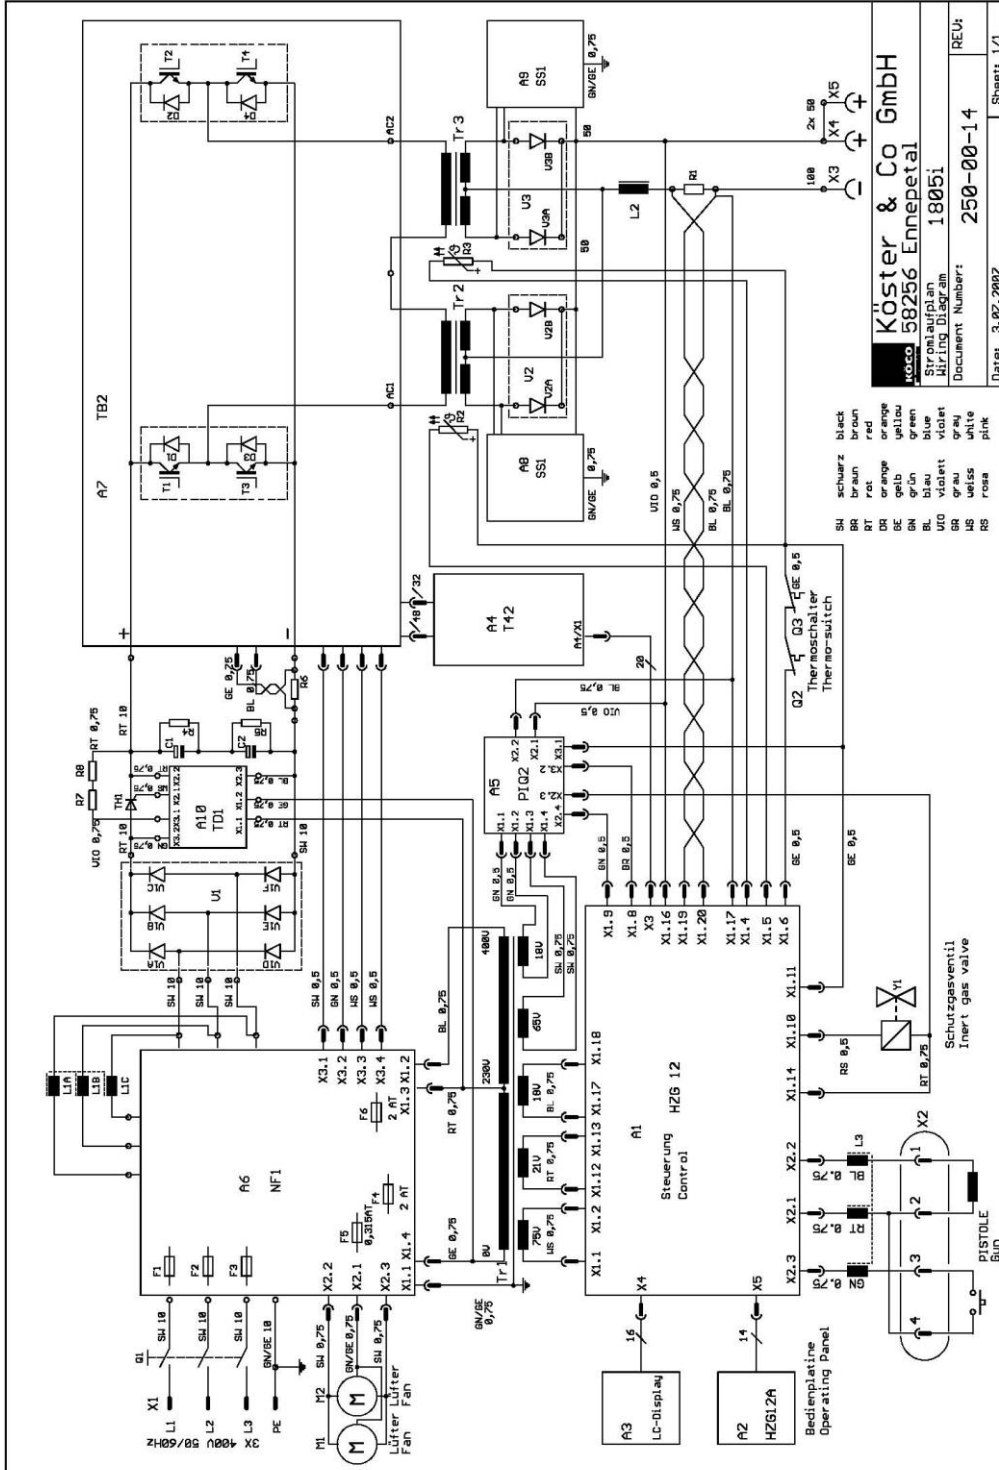

Figure 22: Schematic Circuit Diagram 18051
For pos. 4, 5 and 6 see figure 22.